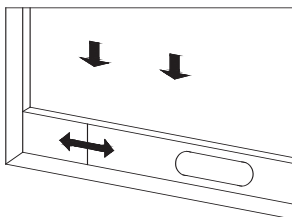
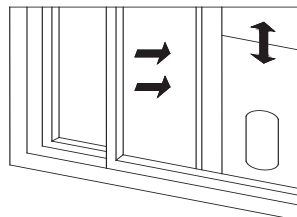
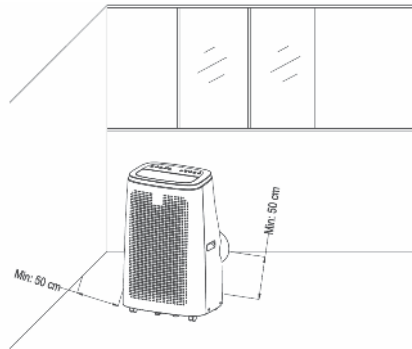

Figure 2
Figure 3
Figure4
1. Half open the window, and mount the window sealing plate assembly to the window (as shown in Fig.2 and Fig.3). Components can be placed in horizontal and vertical direction.
1. Move the air conditioner with installed heat pipe and fittings before the window, and the distance between the body and walls or other objects shall be least 50 cm (as shown in Fig.4).
(Figure 2 shows an open window, Figure 3 a tilted window and Figure 4 an open skylight).